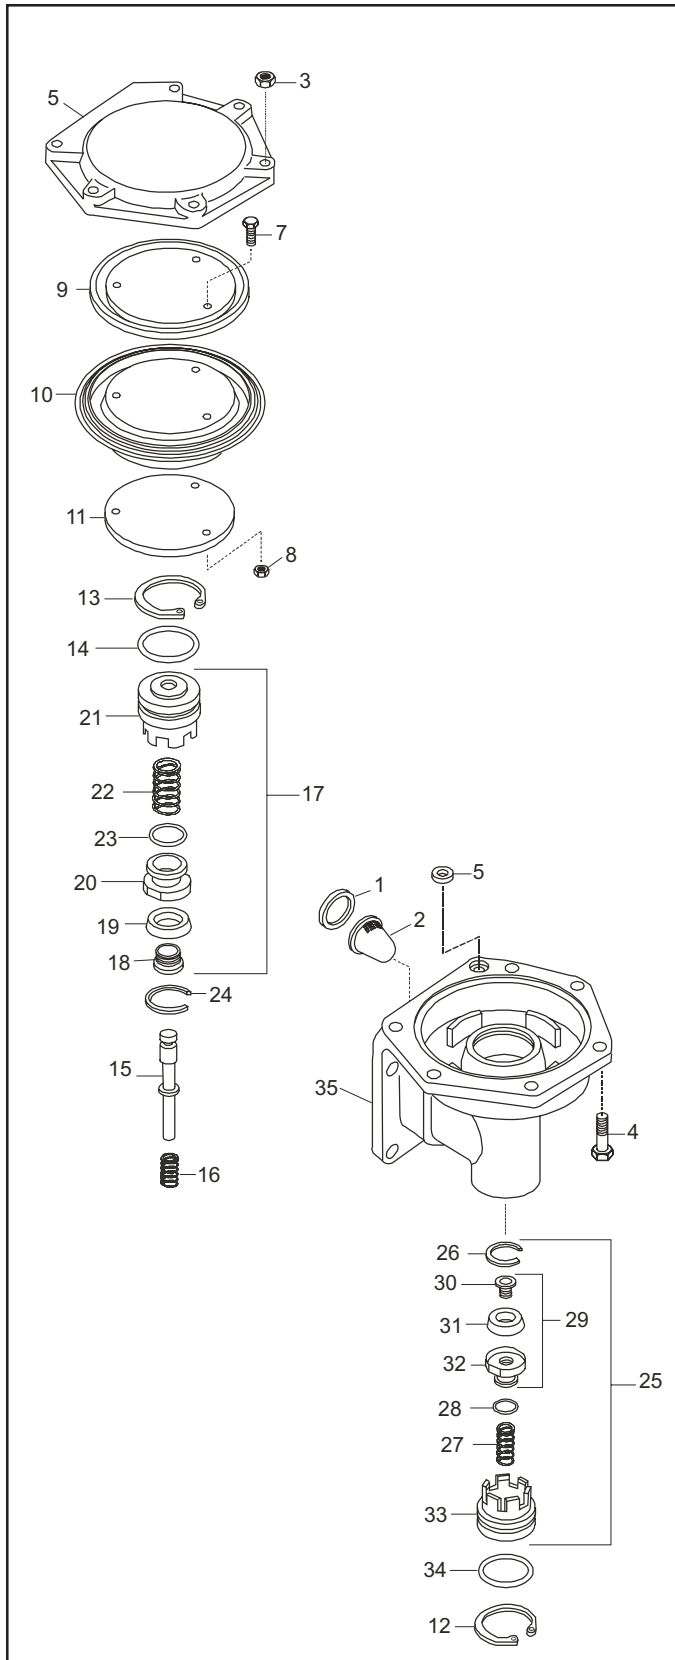

Figure 4 - C-2-W Relay Valve Portion
10.1 DISASSEMBLY (See Figure 4)